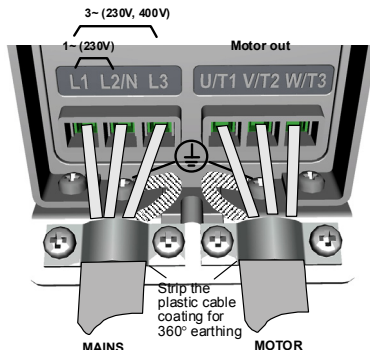
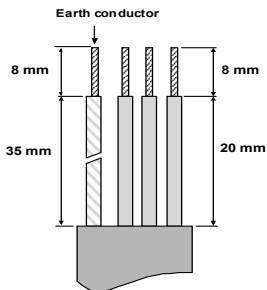

Figure 3.17: Vacon 20 power connections, MI1
Figure 3.31: Stripping of cables
4	<p>Connecting the cables:</p> <ul style="list-style-type: none"> <li>• Strip the motor and mains cables as advised in Figure 3.31.</li> <li>• Connect the mains, motor and control cables into their respective terminals, see Figures 3.17 - 3.26.</li> <li>• Note the tightening torques of power cables and control cables given in chapter 3.2.1 and 3.2.2.</li> <li>• For information on cable installation according to UL regulations see Chapter 3.2.8.</li> <li>• Make sure that the control cable wires do not come in contact with the electronic components of the unit.</li> <li>• If an external brake resistor (option) is used, connect its cable to the appropriate terminal.</li> <li>• Check the connection of the earth cable to the motor and the frequency converter terminals marked with</li> </ul> <div data-bbox="557 879 607 928" style="text-align: center;"> </div> <ul style="list-style-type: none"> <li>• Connect the separate shield of the motor cable to the earth plate of the frequency converter, motor and the supply centre.</li> </ul>
**Note!** Strip also the plastic cover of the cables for 360 degree earthing. See Figures 3.17, 3.18 and 3.25.